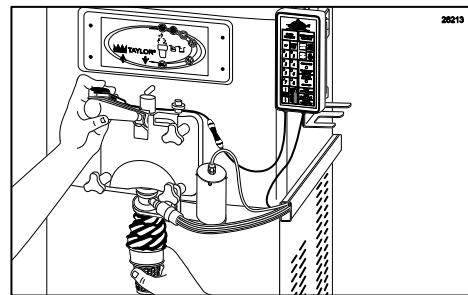

Figure 177
3. Select one of the flavors on the Keypad by touching the key (1-8), and draw a serving. (See Figure 177.)